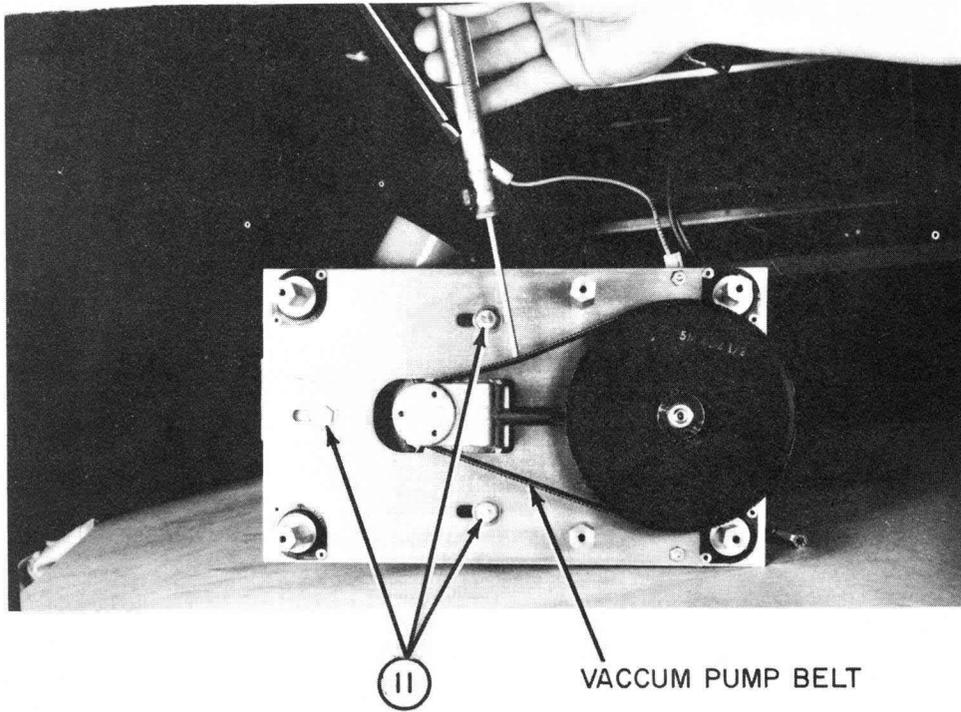

Figure 29. Vacuum Pump Belt Adjustment
17. LOOSEN the three hex bolts (11) holding the vacuum pump in place, figure 29.
18. Replace vacuum pump belt, figure 29.
19. Using a spring scale, adjust vacuum pump for a belt tension of 4-6 ounces. This is about 3/64" belt deflection, figure 29.
20. With the appropriate belt tension applied, tighten the three hex vacuum pump mounting bolts, figure 29.